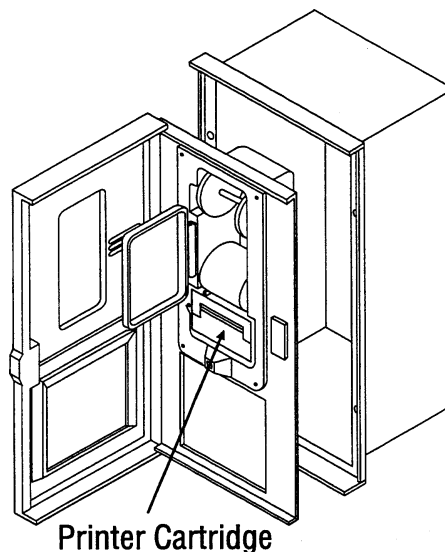

Figure 8-20. Display Housing
7. Disconnect *all* wiring harness plugs from the back of the control box. Refer to Figure 8-20.
4. Refer to Figure 8-20 and open the display door.